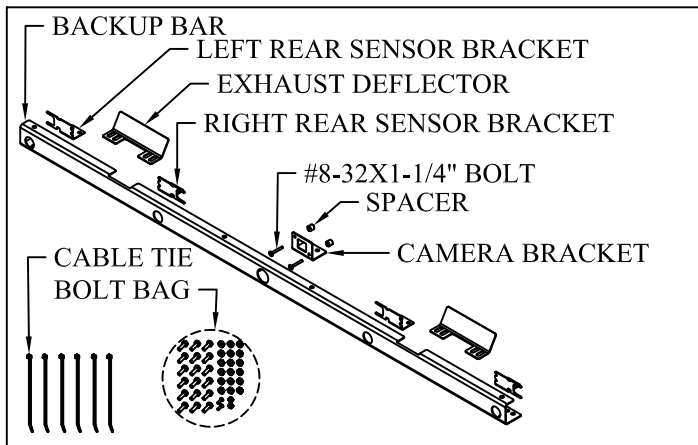

Figure 1: Part Identification.
- 1. Verify** rear camera and sensor bar kit contents (Figure 1 and Table 1).